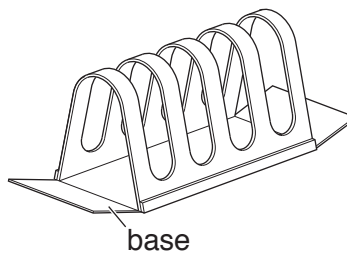

Fig. 7
- 10 Fig. 7 shows a toast rack made from metal.